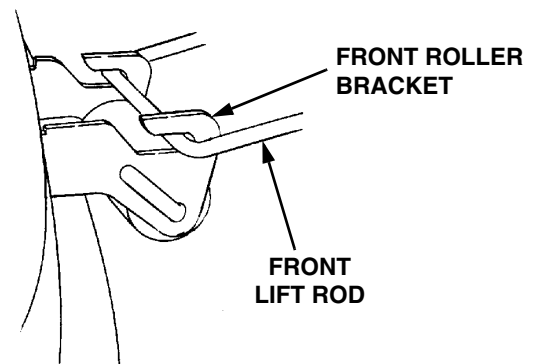

Figure 2-5
6. While holding the front lift rod up, slide the mower deck forward until the rod aligns with both front roller bracket slots. Lower the lift rod into the front roller bracket slots and slide the deck rearward to engage the lift rod fully forward in the slots of the deck front roller bracket (See Figure 2-5).